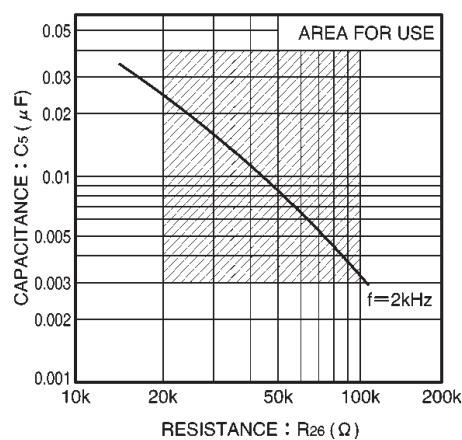

Fig. 7 Value of external components for oscillator ( $V_{CC} = 5.0V$ )
(3) The external resistor  $R_{26}$  connected to the oscillator (pin 28) should be in the range of  $20k\Omega$  and  $100k\Omega$ . If it is outside this range, oscillation may stop due to the influence of temperature (see Fig. 7).